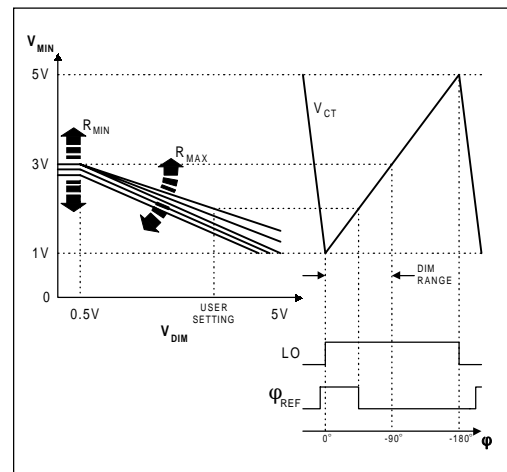

Figure 13, Dimming interface
The IR2159 includes a dimming interface for analog lamp power control. The DIM pin input requires a voltage in the range of 0.5 to 5VDC, with 5V corresponding to minimum phase shift (maximum lamp power). The output of the dim interface is the voltage on pin MIN, which is compared with the internal timing capacitor (CT) voltage to produce a frequency-independent digital reference phase (Figure 13).